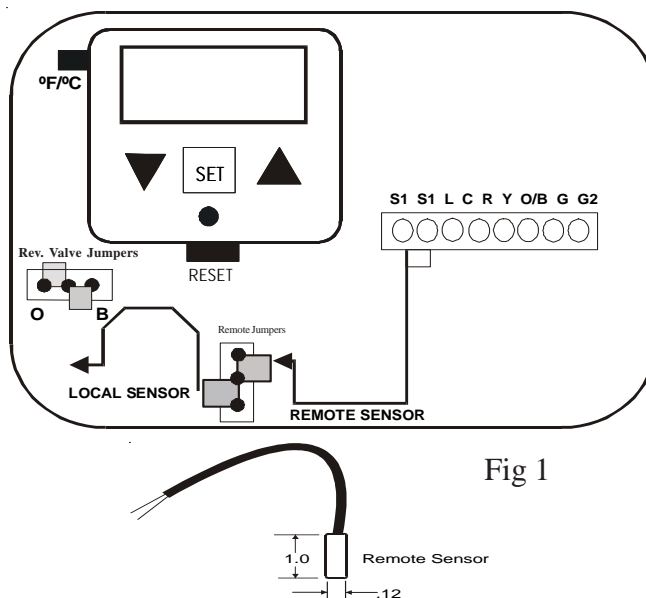

Fig 1
- Move Remote Jumper to the top 2 pins (see Fig 1).